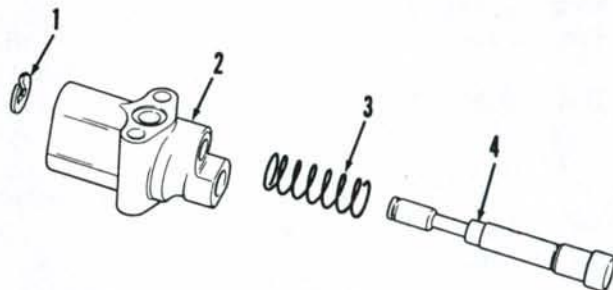

Fig. 164—Exploded view of action valve.
Push inward on spool (4—Fig. 164) to compress spring (3). Remove retaining clip (1), then remove spool and spring from valve body (2). Inspect spool and bore in valve body for scoring or other damage. Spool (4) and body (2) are available only as a matched set. Free length of spring (3) should be 1.705 inches